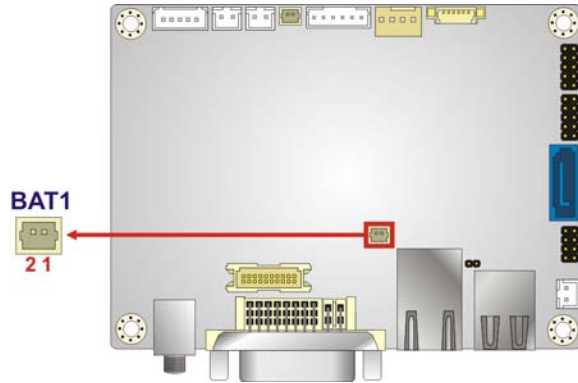

Figure 3-5: Battery Connector Location
- CN Location: See **Figure 3-5**